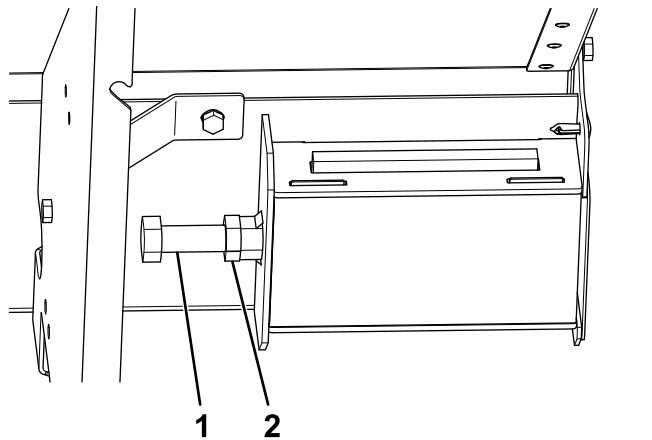

Figure 21
4. To adjust the tension, loosen the jam nuts on the sides of the spreader (**Figure 21**).